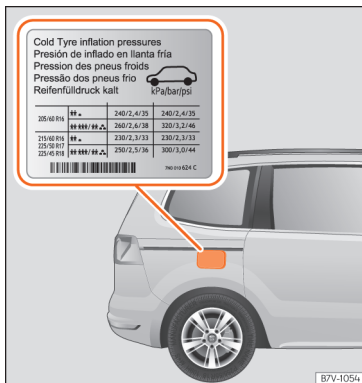

Fig. 295 Position of tyre pressure specification plate
- Adjust tyre pressure to the load being carried by the vehicle » **Fig. 295**.
» **Fig. 295** is either on the driver door strut or inside the fuel tank flap.
» **Fig. 295**.
- The driver is responsible for ensuring that all of the vehicle tyres are correctly inflated to the right pressure. The recommended tyre pressure is indicated on the label » **Fig. 295**.
- When the tyres are cold, tyre pressure should be that indicated on the label » **Fig. 295**.